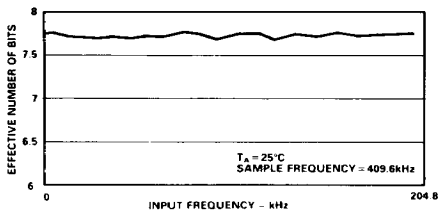

Figure 14. Effective Number of Bits vs. Frequency
This is for an ideal part with no differential or integral linearity errors. These errors will cause a degradation in SNR. By working backwards from the above equation, it is possible to get a measure of ADC performance expressed in effective number of bits (N). This effective number of bits is plotted versus frequency in Figure 14. The effective number of bits typically falls between 7.7 and 7.8 corresponding to SNR figures of 48.1 and 48.7dB.